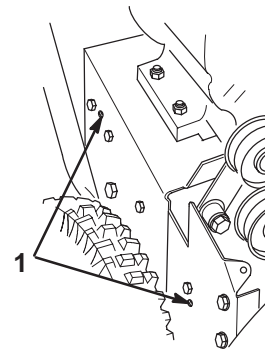

Figure 29
18. Install the 2 screws that secure the auger brake arm assembly. Ensure that the tabs fit into the holes in the left side of the snowthrower (Fig. 29).
14. Install the 2 screws that secure the auger brake arm assembly. Ensure that the tabs fit into the holes in the right side of the snowthrower (Fig. 29).